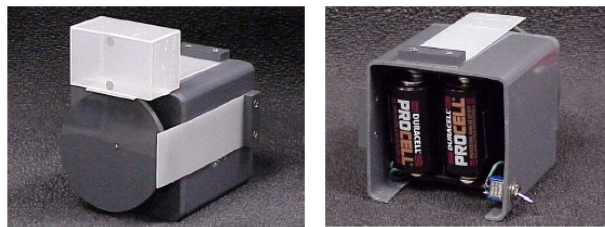

FIGURE 5-2 BREATHING PHANTOM AND MARKER BLOCK SETUP
3. Tape the Marker block to the plastic tab on the Breathing Phantom. (Refer to Figure 5-2)